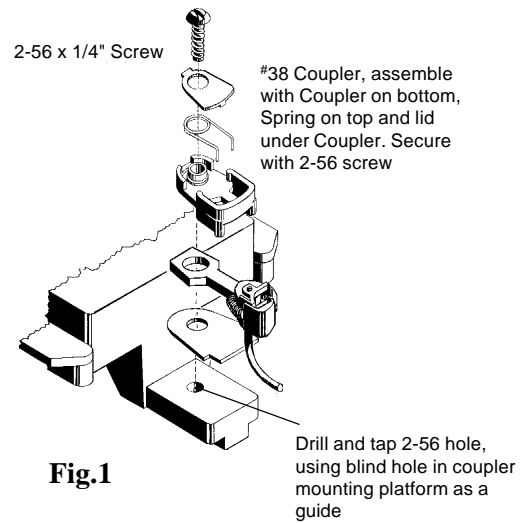

Fig.1
3. Assemble the #38 Coupler with coupler on bottom, Torsion Spring on top and lid under coupler, as shown in Fig.1. Install coupler, align and secure with a 2-56 screw.